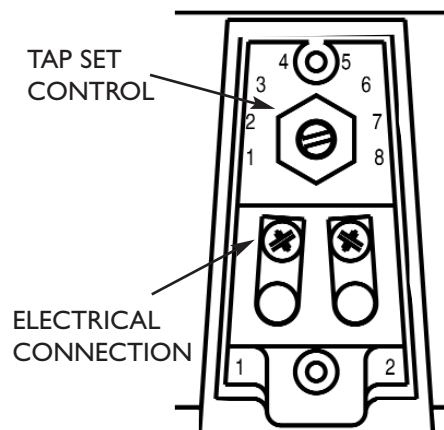

Figure 2
**STEP 3** - Remove the plastic cover to make the electrical connection and set the tap set control (see Figure 2). **Note:** Use 22 AWG shielded, twisted pair on all wire runs. Com Code: 401882956. Pec Code: 2734-SPK. Connect speaker wire shield to the ground (GND) terminal of the amplifier's output. Carry the ground through all speaker cables by tying the shields of the speaker cables together in a "daisy chain" fashion. **Do not connect the shield to the speaker itself.** The shield is only connected at the amplifier end and simply floats.
Tap anchor until it is flush with the wall (see Figure 2).